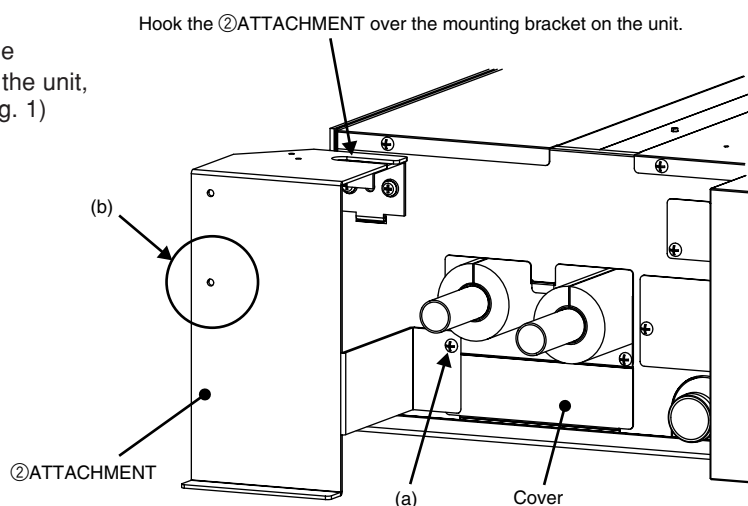

Fig. 1
- (1) Unscrew the (a)screw on the unit cover, hook the ②ATTACHMENT over the mounting bracket on the unit, and screw it on to the unit with the (a)screw. (Fig. 1)
- (2) Temporarily screw in the ⑦SCREW in the hole (b) on the ②ATTACHMENT. (Fig. 1 and 2)